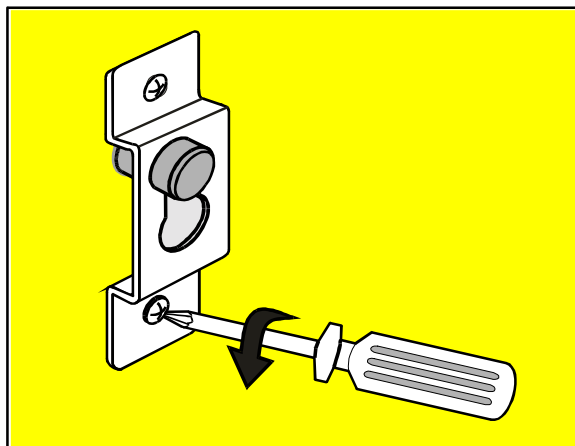

fig 2
- Undo the screws on the rear of the machine (fig. 2).